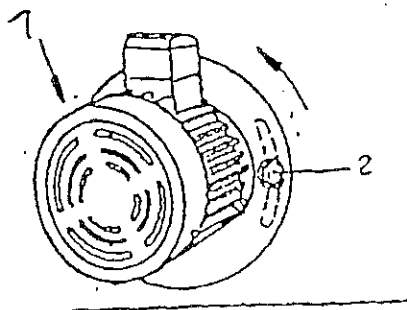

FIG 25
- Pull the belts manually while lifting the motor and fasten screw 2 (Fig. 25) so as to lock the motor to the position set for models PB 400 - P 400 - DS 400